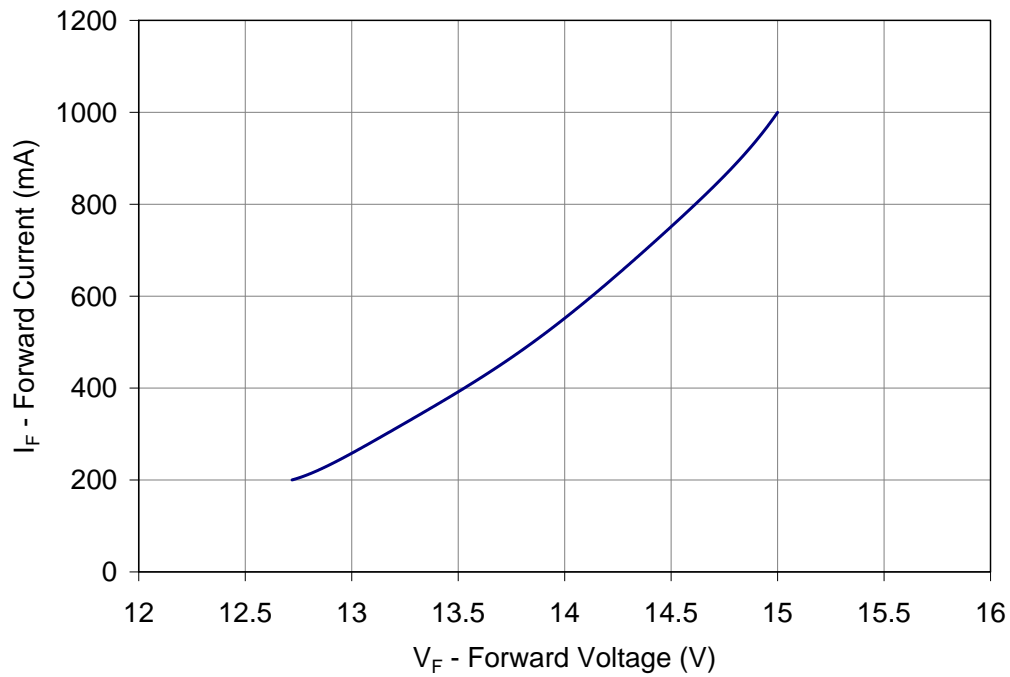

Figure 6: Typical forward current vs. forward voltage @ $T_C = 25^\circ\text{C}$.
- Refer to Figure 6 for typical dominant wavelength shift over forward current.
Note for Figure 6: